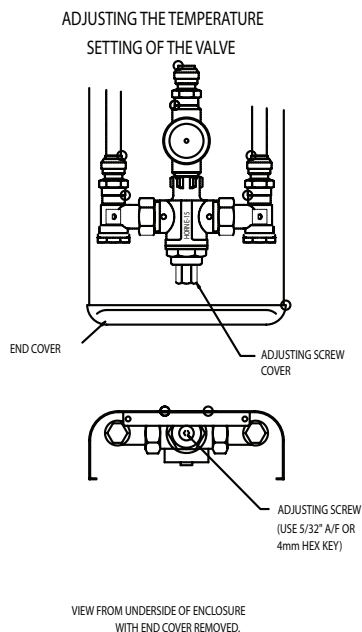

Fig 5
- b) Remove the adjusting screw cover from the valve (see Fig 5).